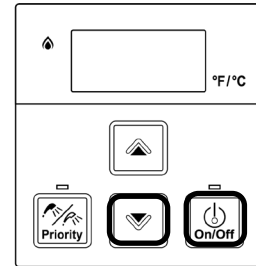

Figure 43
4. To exit performance data, repeat step 2 above. (Figure 43)